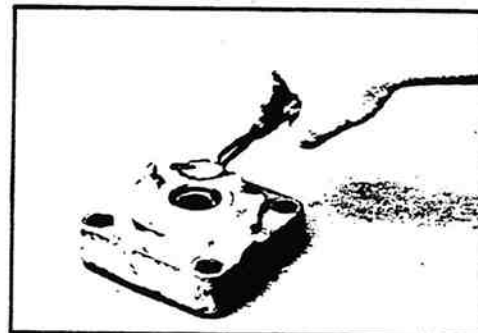

Figure 11-32. Retaining Ring Removal.
30. Remove the retaining ring (38) (figure 11-32).